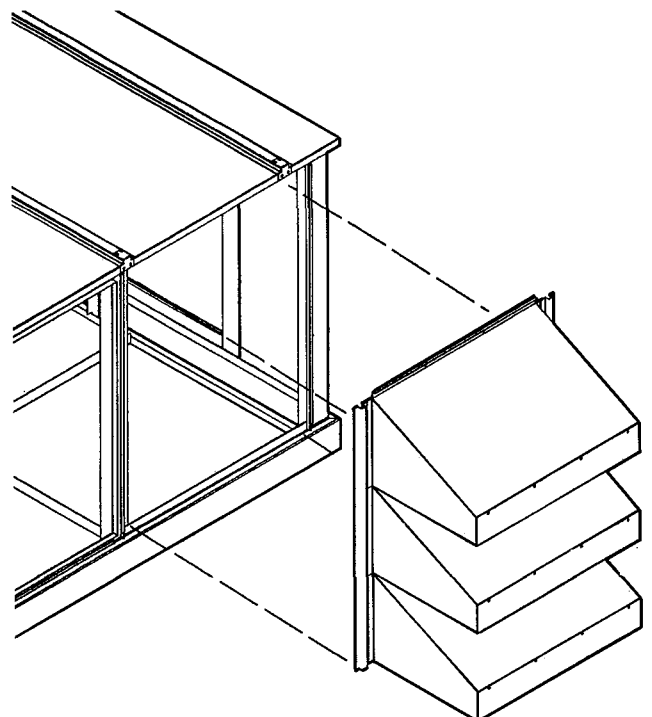

**Fig. 11 — Economizer Hood Installation**
14. See Fig. 11 and place economizer hood assembly over outdoor-air opening.